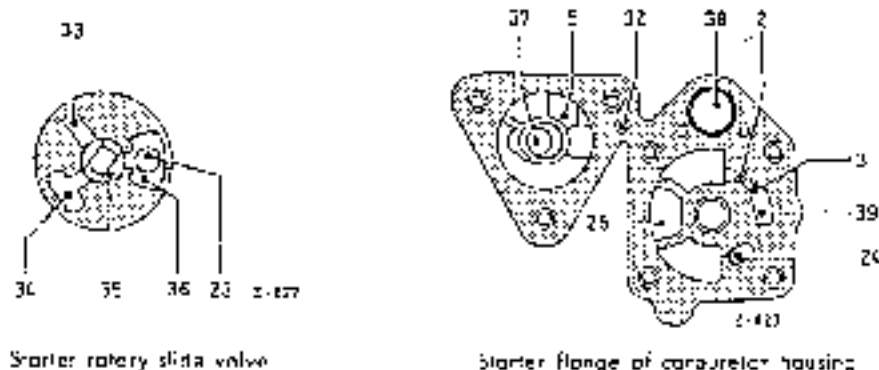

Fig. 07-0'2
The pre-mixture enters the chamber (33) of the starter rotary slide valve through the grooved bore (2) of the fuel canal (4) [Figs. 07-0'1 and 07-0'2].